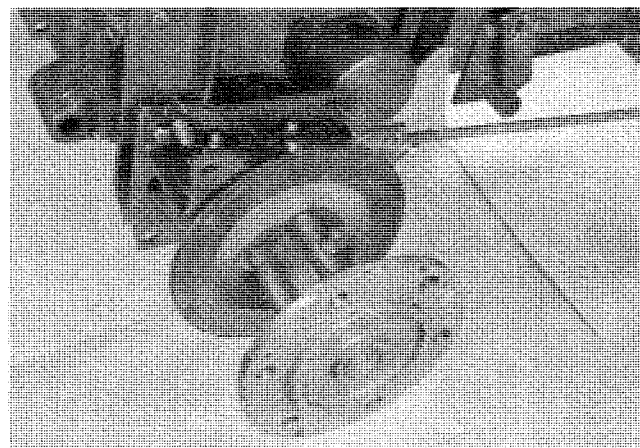

FIGURE 3
Bolt the support plate assembly, item 39 to the right side of the frame as shown in Fig. 3 and Fig. 6.
Make the identical installation on the right axle as shown in Fig. 3.